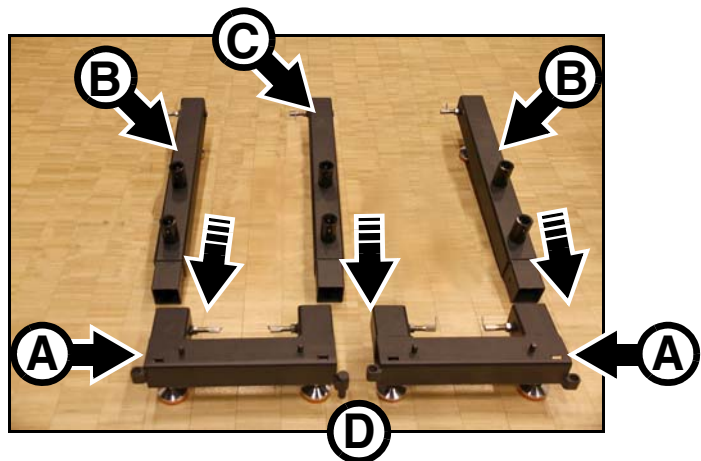

Figure 8: Face Footers components
2. Lay out bases and stabilizer legs as shown in Figure 8. You must fasten legs **B** into base units **A** at each edge of the array. You must also fasten a stabilizer leg **C** into one of the base units **A** each time you join two base units side by side (see **D**). It does not matter which of the two base units you fasten the leg **C** into.
If you stabilize base units with **one row** of stabilizer legs (as shown in Figure 8), you can install an array of video panels up to the heights listed in Figure 6 on page 15 if you fasten the amount of ballast specified in Figure 6 to the rear end of each stabilizer leg.